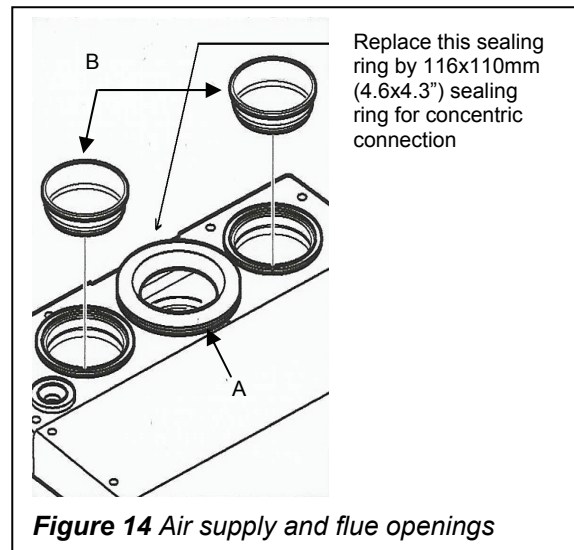

Figure 14 Air supply and flue openings
1.7.5.1 TWIN TUBE TO APPLIANCE CONNECTION (Refer Figure 14)
1. Properly seal the air supply opening on the appliance with the sealing cap supplied with the set (item B in Figure 14)
2. Replace the existing sealing ring (item A) on the top of the appliance, as shown in Figure 14, by the sealing ring ϕ 116 x 110 mm (4.6 in x 4.33 in) which should be provided by manufacturer.